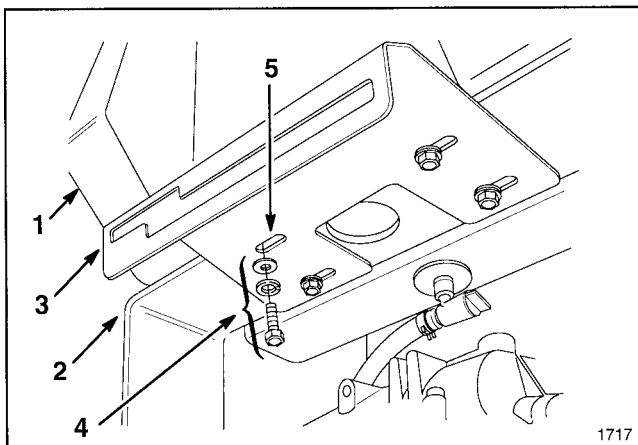

Figure 1
1. Place fuel tank onto rear frame and align mounting holes (Fig. 1).
2. Loosely mount control panel to bottom of rear frame and fuel tank with (4) capscrews, lockwashers, and flatwashers (Fig. 1). Do not tighten capscrews.
3. Move shift lever to reverse and 4th gear. Control panel mounting holes are slotted to enable it to be moved from side to side (Fig. 1). Position control panel as needed to achieve full shift range. Tighten mounting screws to a maximum of 90 in.-lb. **DO NOT OVER TIGHTEN.**